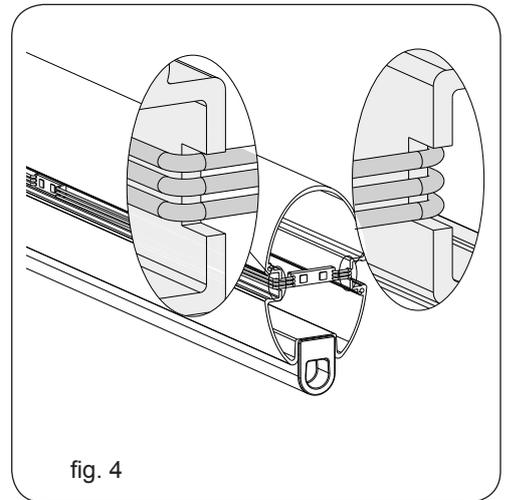

fig. 4
- 3_ Slide the line creating two recesses so that the cables can pass behind the bar cap (fig. 4);